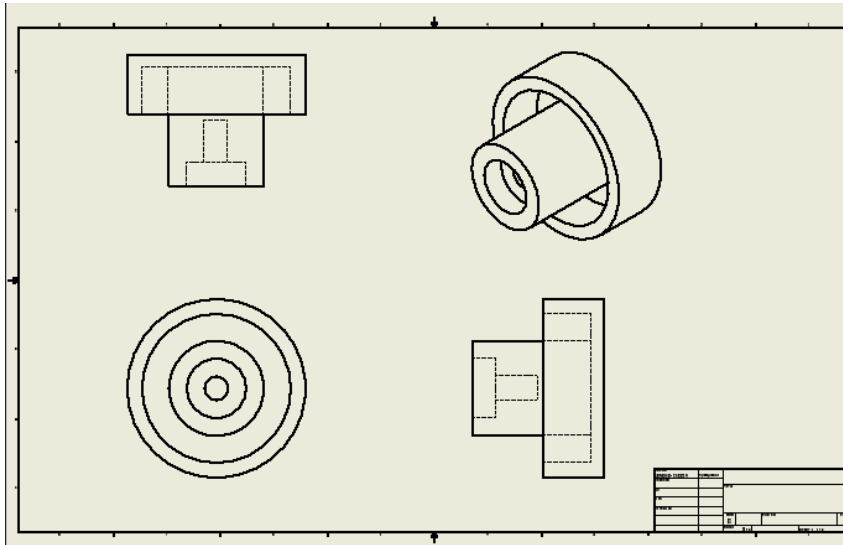

Figure 2-107 Drawing sheet after generating the drawing views
5. Similarly, taking the front view as the parent view, generate the drawing of right-side view and the isometric view, as shown in Figure 2-107.